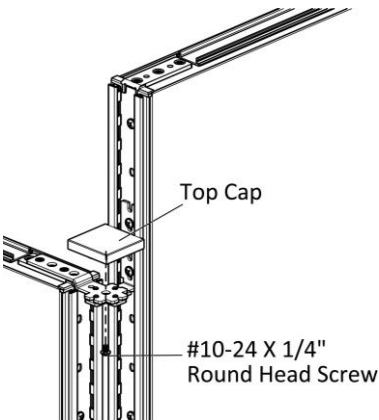

Figure 5
- Securely fasten the top cap with #10-24 X 1/4" Round Head Screw, (Figure 5).